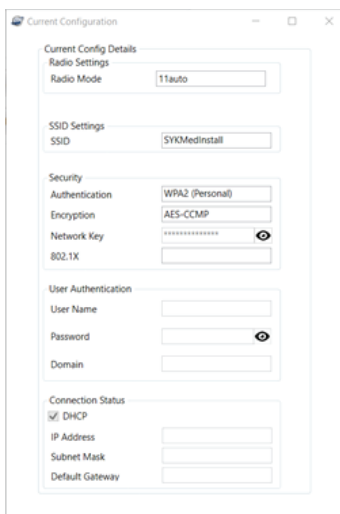

Figure 108 –
- For the selected device, click **Get Config** in the Auto Scan window and wait for the device info window to pop up (Figure 108).